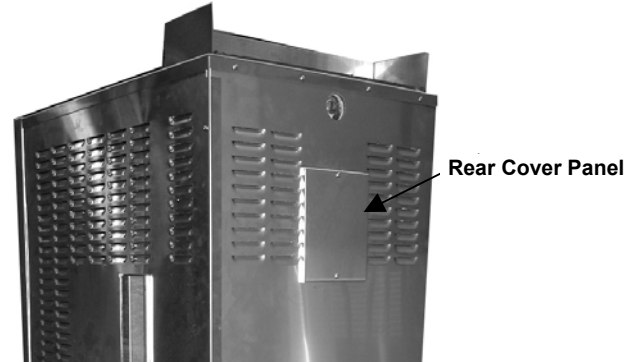

Figure 1 Rear Cover Panel
- 2) Remove the Rear Cover Panel (See Figure 1). If the unit being worked on does not have a Rear Cover Panel, remove the rear panel itself.